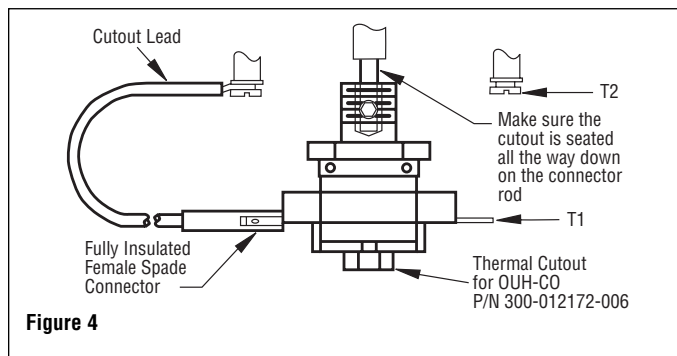

Figure 4
10. On all single phase units less than 3kW – attach power leads to T1 & T2 (see Figure 4) and connect cutout lead to one terminal on the cutout. **Note:** Single phase heaters 3kW and above and all three phase models require the use of a suitable magnetic contactor. (Supplied by customer).